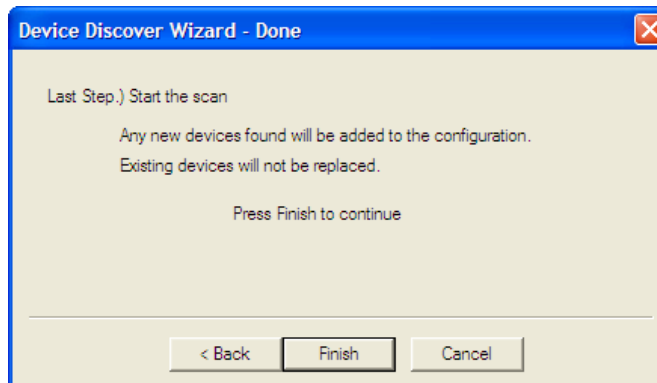

Figure 5-8. Select COM Port Dialog
When the DCS discovers that a port has failed, it starts the switch delay timer. The DCS does not switch over to the new map until the switch delay time expires. The default setting is 100 milliseconds. Figure 5-8 shows this setting in the Configuration View of IntraGuide.
6. Click **Next**. The final wizard dialog box appears (Figure 5-8).
Line build out is the required minimum strength level of the transmitted T1 signal. You can set this on a port-by-port basis. It indicates the minimum distance in feet or strength in decibels required to transmit to remote equipment. The default value is 0 to 133 feet (Figure 5-8).